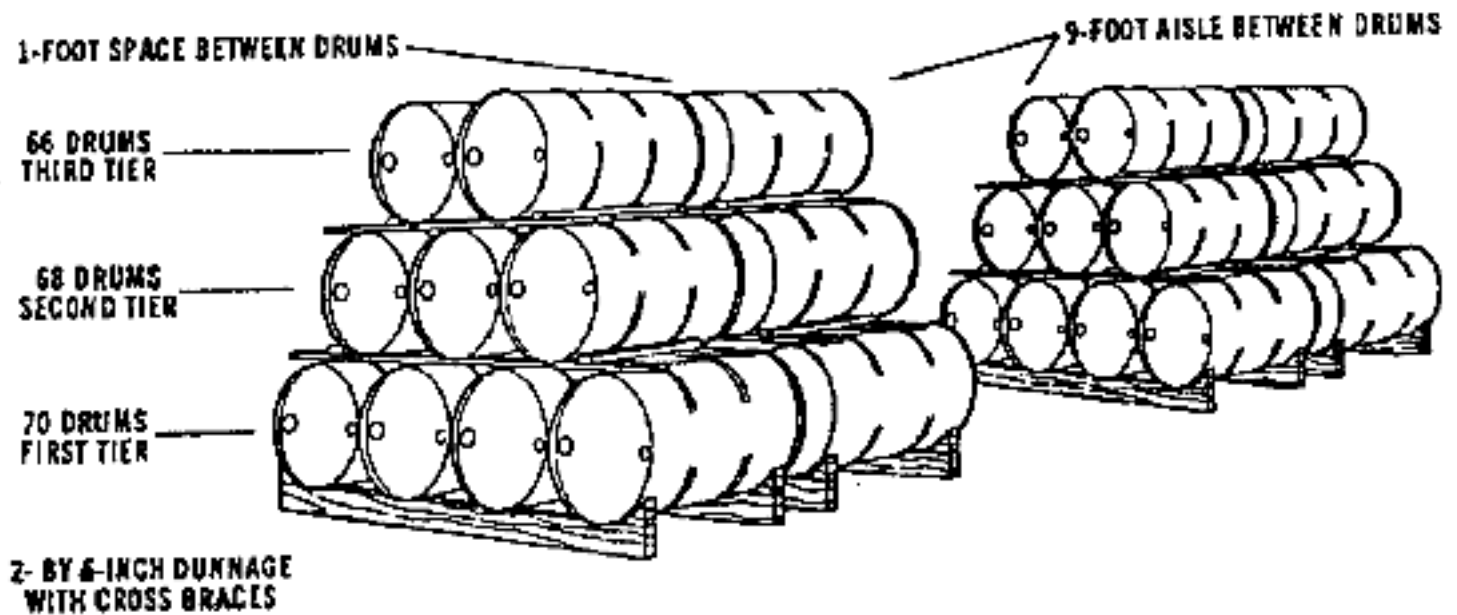

Figure I-4. Dunnaged stack of filled 55-gallon drums.
- Place a second tier on top of the first, and nest each drum between the two drums below it. Ensure that the bungs and vents are in a horizontal line and below the surface of the liquid. If you stack the drums in a pyramid (figure I-4), position them vertically, center them in the upper tier directly over those in the tier below.